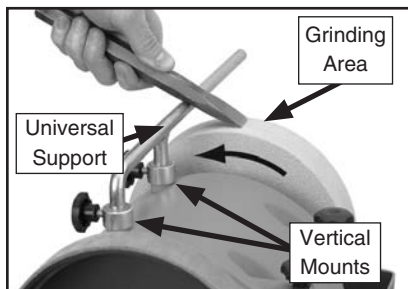

Figure 6. Vertical mount.
3. Attach the universal support in the vertical mounts as shown in **Figure 6**. Be sure it is securely positioned and will not move during grinding. Re-connect the grinder to power.